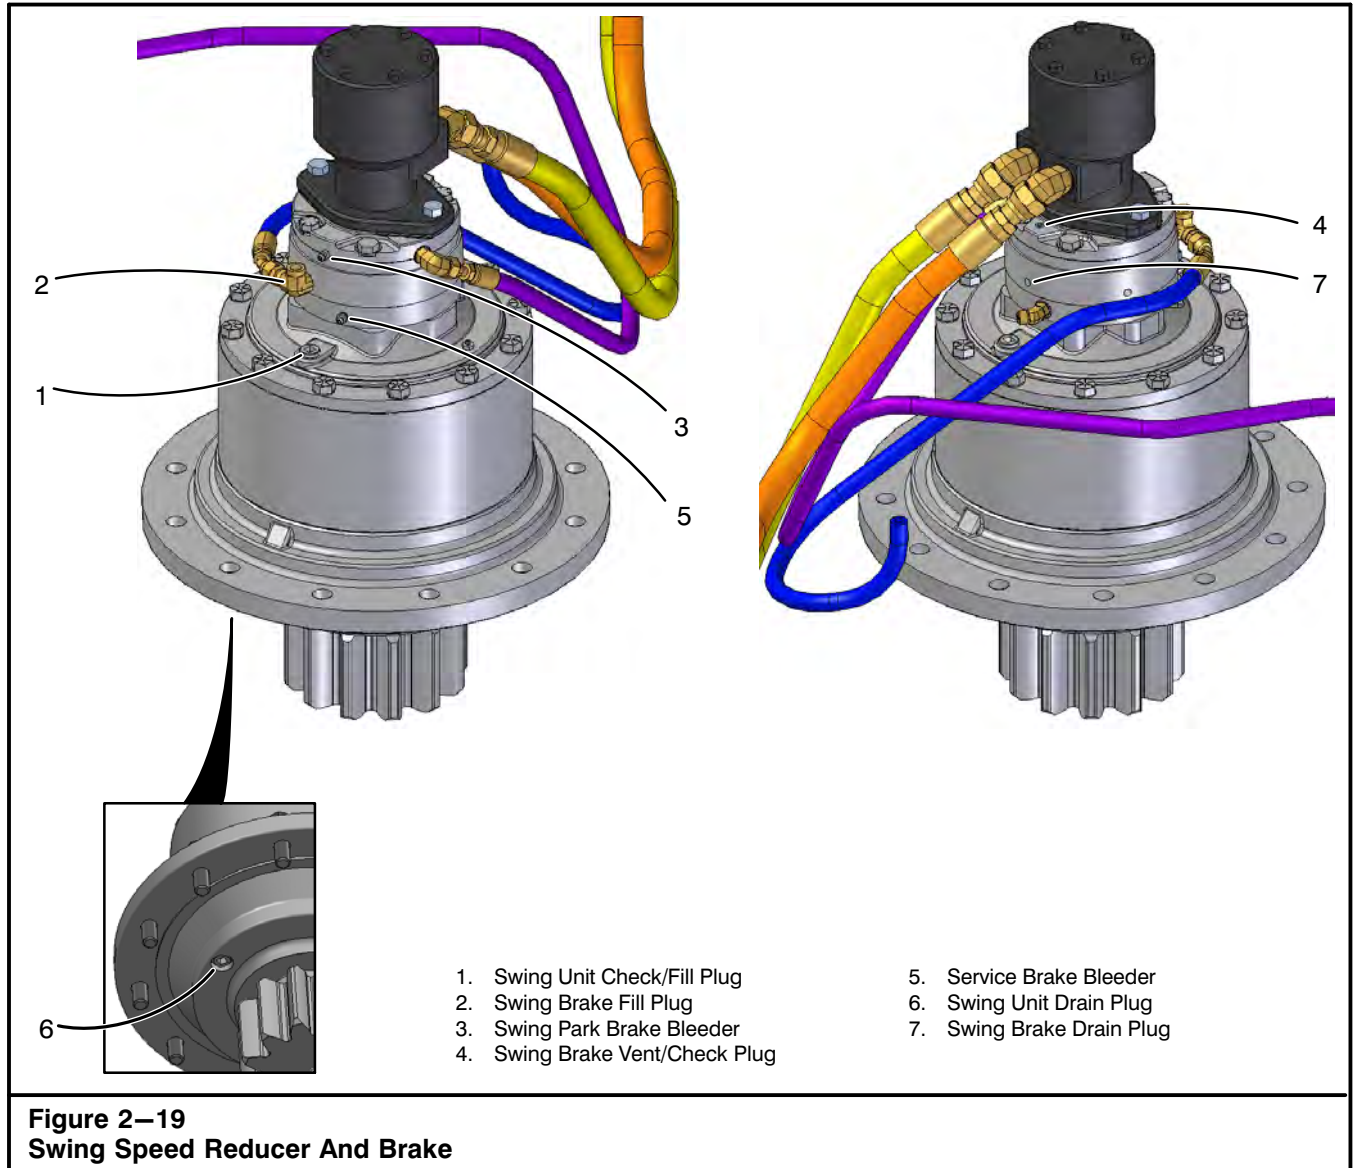

Figure 2-19
2. Engage the travel swing lock and shutdown the engine. Refer to Figure 2-19.